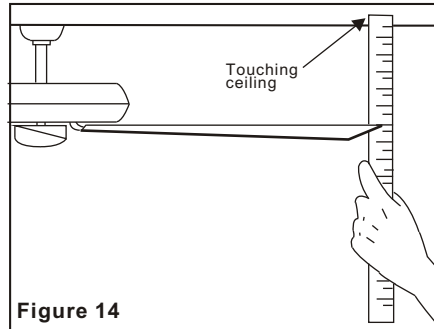

Figure 14
2. Most fan wobble problems are caused when blade levels are unequal. Check this level by selecting a point on the ceiling above the tip of one of the blades. Measure this distance as shown in Figure 14. Rotate the fan until the next blade is positioned for measurement. Repeat for each blade. The distance should be equal within 1/8".